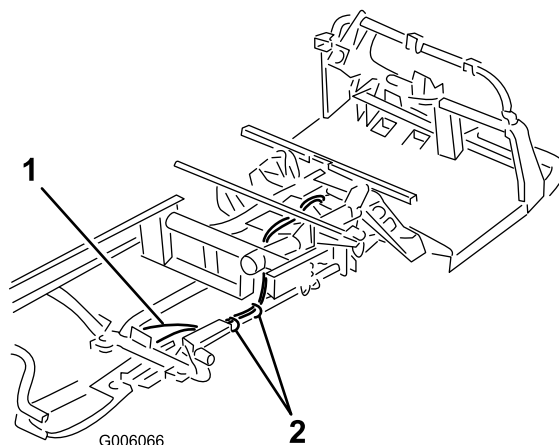
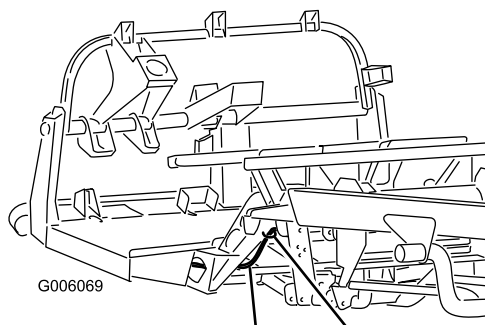

Figure 8
Figure 9
2. Together, route the cables from the back of the machine to the front, going over the suspension and thru the square hole in the frame (Figure 8 & Figure 9). Make sure the clutch cable end with the mounting bracket attached is positioned to the rear.
4. Reinstall the brake and clutch cover to the underside of the front frame with the (4) screws previously removed.
6. At the locations shown in Figure 8 & Figure 9, secure the cables to the machine with cable ties. Also, on air cooled machines only, secure the accelerator cable to the left frame channel with a cable tie (Figure 17).